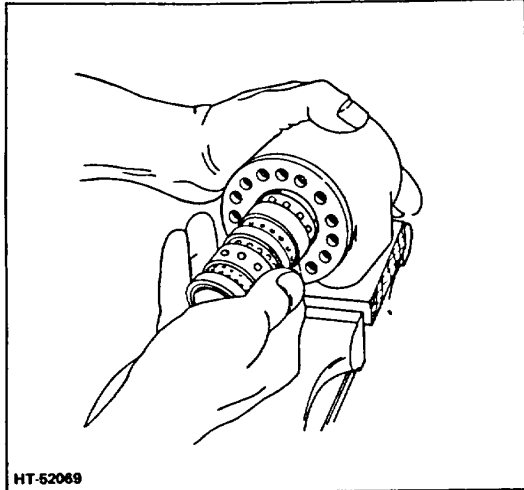

Figure 3-7. Installing Spool Assembly
7. Place the housing on a solid surface with the port face down. Install the spool-sleeve assembly with the splined end of the spool entering the 14-hole end of the housing first (Fig 3-7). Push the spool-sleeve assembly into the housing with a rotating motion.